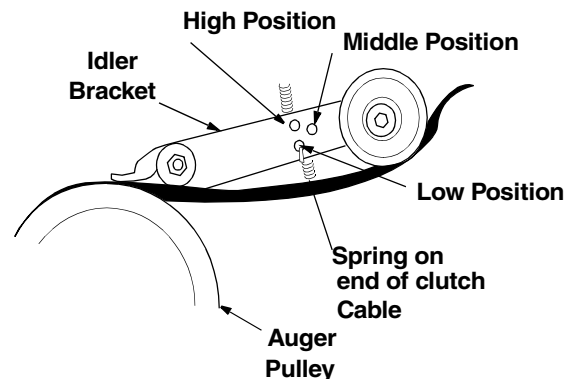

Figure 15
- There are three adjustment holes provided in the idler bracket assembly. See Figure 15. To adjust, move the extension spring on the end of the clutch cable to the next higher adjustment position on the idler bracket assembly. Reassemble belt cover.